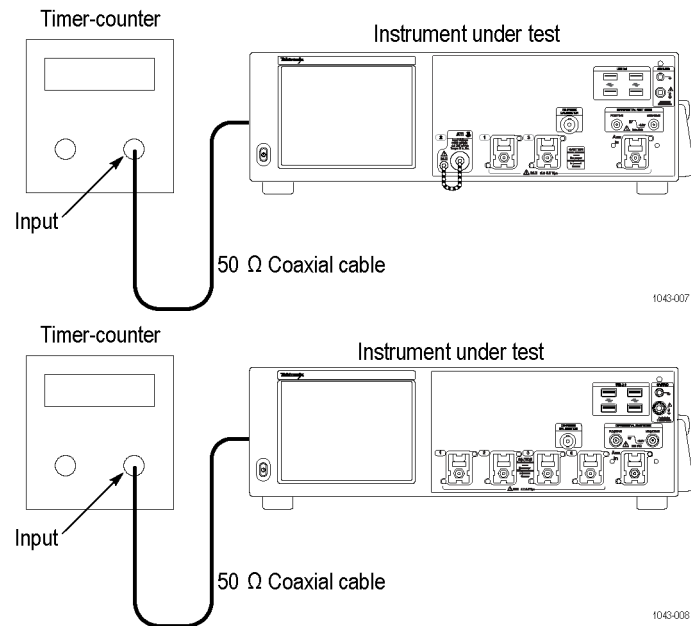

Figure 24: Timebase and delay time initial test hookup
- a. *Hook up the test-signal source:* Connect the input of the timer-counter to **Ref Clock Out** . (See Figure 24: Timebase and delay time initial test hookup on page 129.)